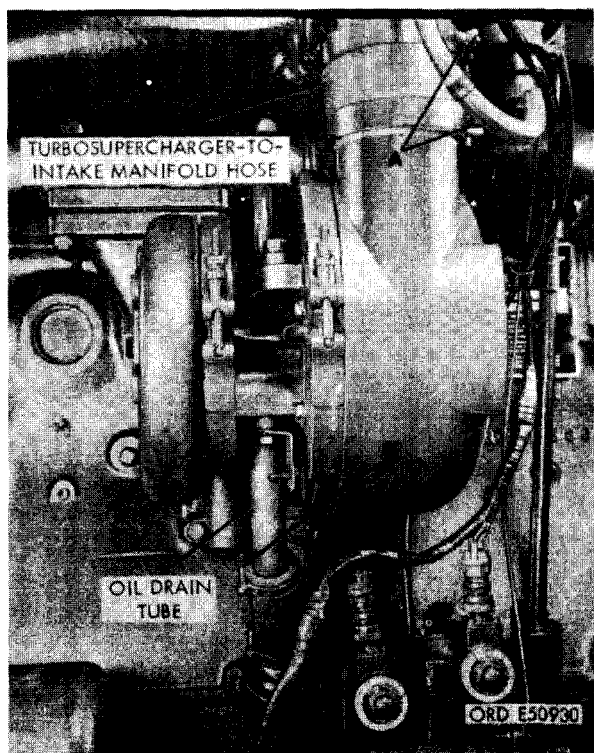

FIGURE 49. DISCONNECTING OR CONNECTING TURBOSUPERCHARGER - TO - INTAKE MANIFOLD HOSE AND OIL DRAIN TUBE (LATE MODEL ENGINES)
- (6) Figure 49. (A) Loosen lower 3-inch hose clamp securing 3-inch turbo supercharger- to- intake manifold hose to turbosupercharger. (B) Loosen two 1- inch hose clamps securing oil drain tube to adapter in crankcase and slide hose up on drain tube.